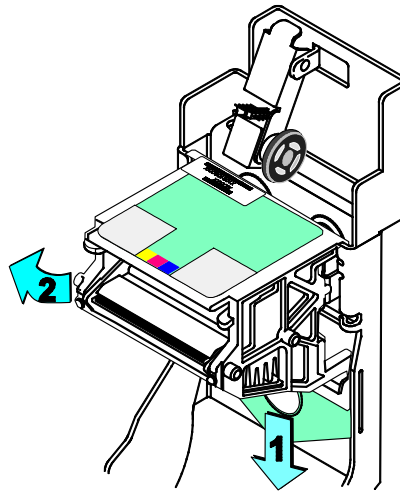

Figure 4-16: Printhead cartridge latch lever
- 4 Press down on the green printhead cartridge latch to release the printhead (step 1 in Figure 4-16).
- 5 Lift the printhead cartridge up and off the swing arm (step 2 in Figure 4-16).